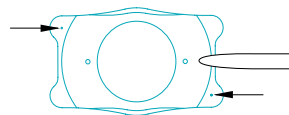

Figure 4
3. Gently remove the ICL from the vial using sterile forceps (Figure 4).
4. Hold the ICL with forceps and inspect it under the operating microscope to identify and verify the correct orientation of the ICL. It is important that the long jaws of the forceps avoid the optic area of the ICL to avoid damage to this thin and critical area. The footplate marks on the leading right and trailing left haptic indicate that the correct (convex) side of the ICL is facing up. The other center marks are used to guide alignment during loading of the ICL into the Injector cartridge (Figure 4).